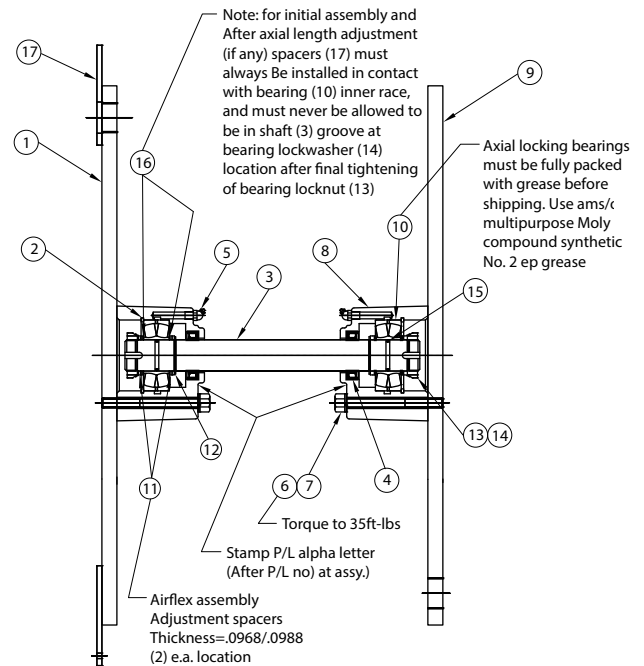

Figure 5
- 2.4.1 Foundations must be set so distance "X", shown on Figure 5 (or the appropriate drawing for non standard applications), is established. If the clutch is mounted on a shaft having plain bearings, make sure the shaft is centered within the bearings when establishing the "X" dimension. Refer to Table 3 for appropriate "X" dimensions.
- 2.5.3 Referring to Figure 5, the overall length of the axial locking device can be adjusted by relocating spacers (11 / 17) from one side of a bearing to another.